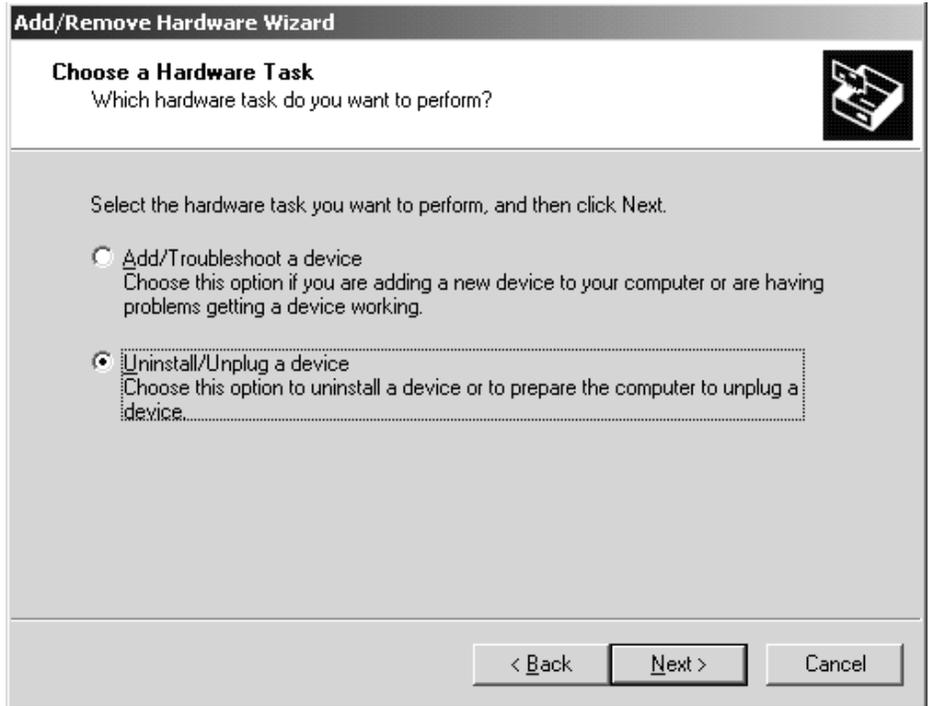

Figure 38. Control Panel Menu
3. An **Add/Remove Hardware Wizard** window opens. Check the **Uninstall/Unplug a device** option, then click **Next**. See Figure 38.